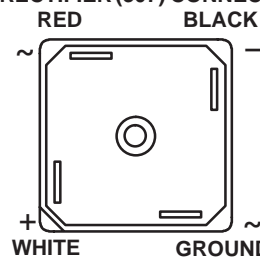

Fig. 24
4. Disconnect the red, black and white wires from the rectifier (307) which are sheathed with the conductor (309). Unscrew the connector (313) from the pressure control, pulling the conductor and wires out with it. See Fig. 24.
5. Use a wrench to hold the hex of the adapters (C) while removing the swivel unions (108). See Fig. 24.